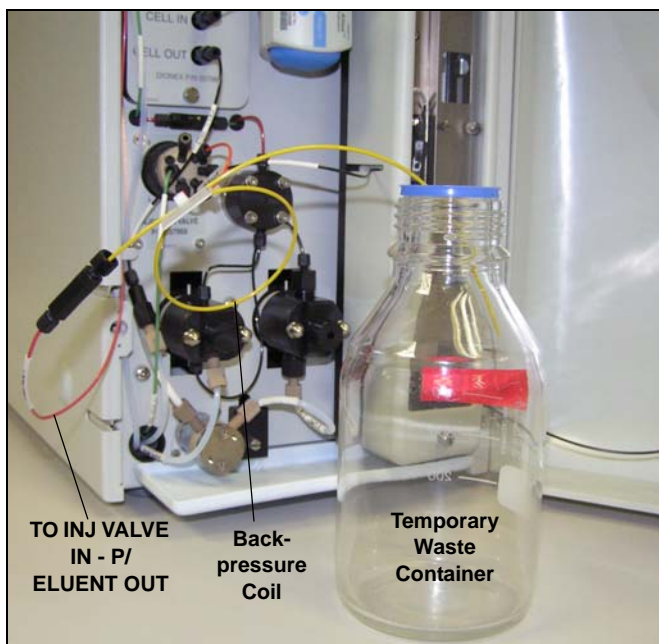

Figure 5-56. Plumbing Connections for Conditioning the EluGen Cartridge with Carbonate Eluent
3. Use the coupler to connect the **TO INJ VALVE IN - P/ELUENT OUT** line to one end of the backpressure coil (see Figure 5-56).